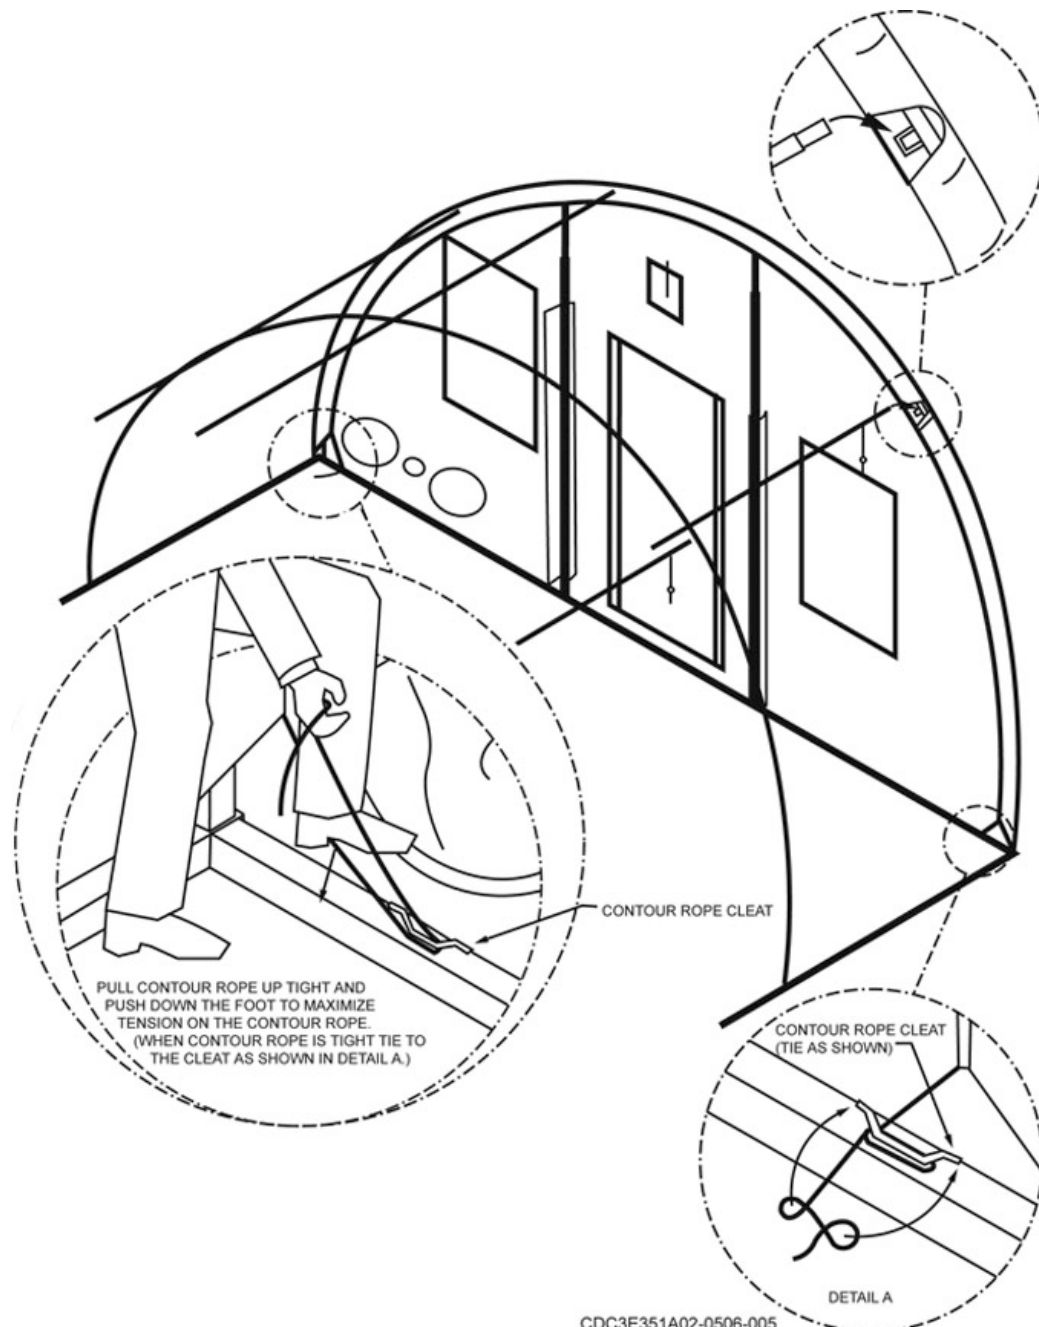

Figure 2-5. End panel installation.
3. Temporarily remove the purlins from the end arch only and lift the end panel up to work the contoured edge up and over the end arch (fig. 2-5). Starting at the center purlin and working towards the sides, slip the end cover rope under the purlins and reattach the purlins to the end arch.